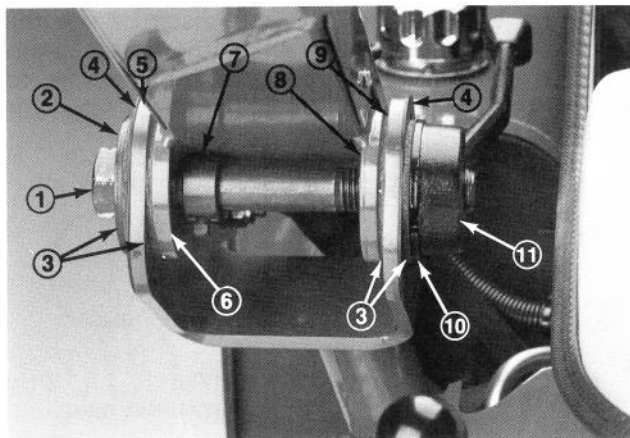

Figure 4
2. Raise the control arm. Insert a friction washer between the outside part of the mounting frame and control arm (Fig. 4). Align the holes and, from outside toward the inside, slide the capscrew through the outside mounting frame hole, the friction washer and outside control arm hole (Fig. 4).
3. Slip the arm locking hub onto the capscrew and install a friction washer between the inner portion of the control arm and the mounting frame (Fig. 4). Slide the capscrew through the inner control arm hole, the friction washer and inside mounting frame hole (Fig. 4).
4. Insert a wear plate and friction washer between the frame mounting bracket and steering arm plate. Slide the capscrew completely through all three parts (Fig. 4).
5. Thread the capscrew into the arm lock lever and hold the arm in its highest position. With the lever in locked position (fully back against the rear stop), torque the capscrew to 35 ft-lb (47 N·m). Thread a set screw into the arm locking hub, slide the hub against the right side of the control arm and tighten the set screw (Fig. 4).